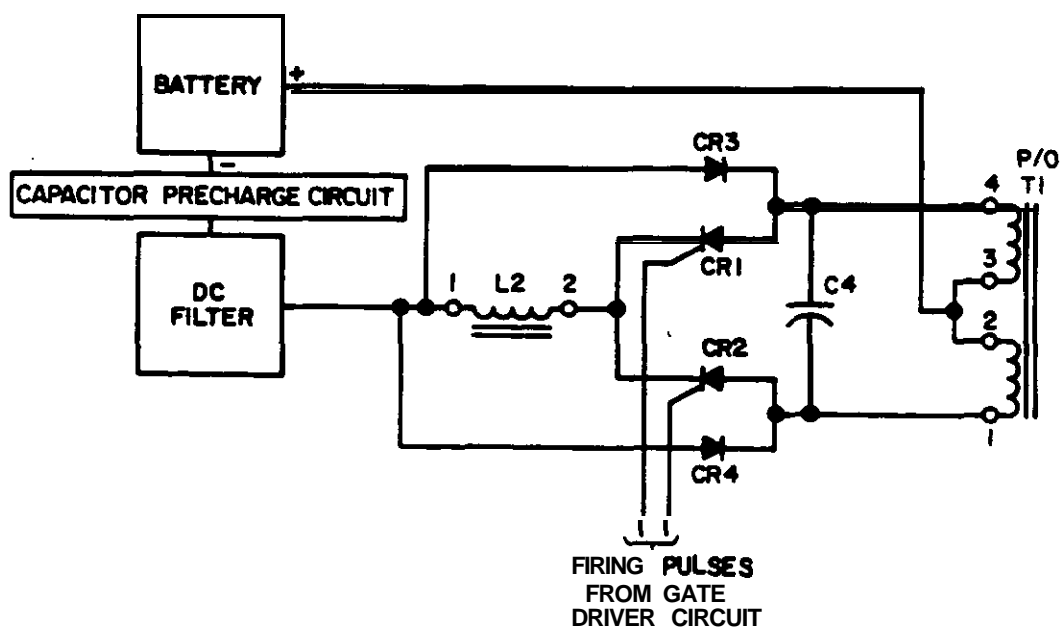

Figure 5-3. Simplified Schematic Diagram: Battery Charger and Inverter
5.06 Battery Charger and Inverter. A simplified schematic diagram of the battery charger and inverter circuit is shown in Figure 5-3. During normal system operation with commercial AC power applied to the AC regulator circuit, a portion of the energy available in the resonant tank circuit is magnetically coupled to the 1-4 windings of T1. The resultant voltage induced on this winding is rectified by diodes CR5 and CR8. This DC voltage is applied to the battery through a DC filter circuit. Positive battery return connects to the center tap of the 1-4 winding of T1.